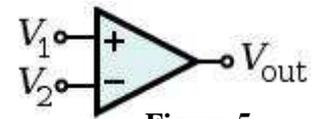

Figure 5
In the **Comparator circuit**, shown in Figure 5, when the non-inverting input (V_1) is higher than the inverting input (V_2), the high gain of the op-amp causes the output to saturate at the highest positive voltage it can output. When the non-inverting input (V_1) is lower than the inverting input (V_2), the output saturates at the most negative voltage it can output. The op-amp's output voltage is limited by the supply voltage.
The **Square wave generator circuit**, shown in Figure 5, is used to generate a square wave. It's the reference voltage for the comparator depends on the output voltage. The period of the output signal (T) is given by the following equation: